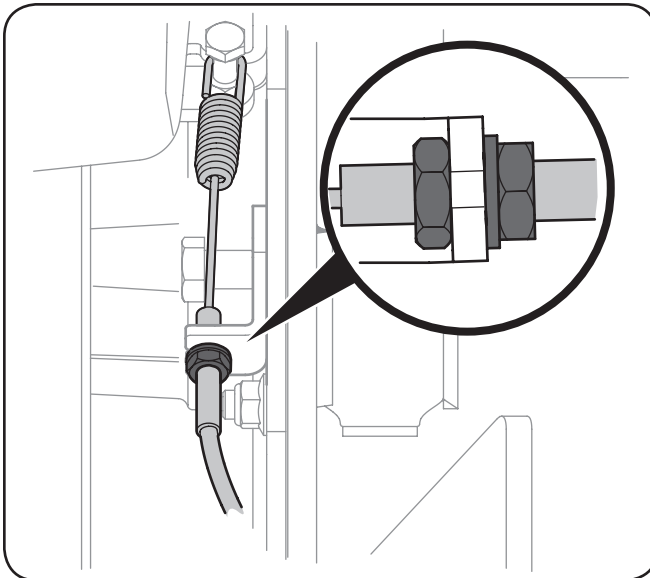

Figure 6-7
4. Using a ½" drive insert the male end into the ½" square opening in the deck idler assembly and rotate the idler clockwise on the 60" and 54" decks and counter-clockwise on the 48" deck. See Figure 6-7. While holding the deck idler, loosen the deck belt from the pulley and slide the belt away from the pulley.
5. Route the new belt as shown in Figure 6-7. Then reinstall the deck and PTO belt as instructed on page 34.